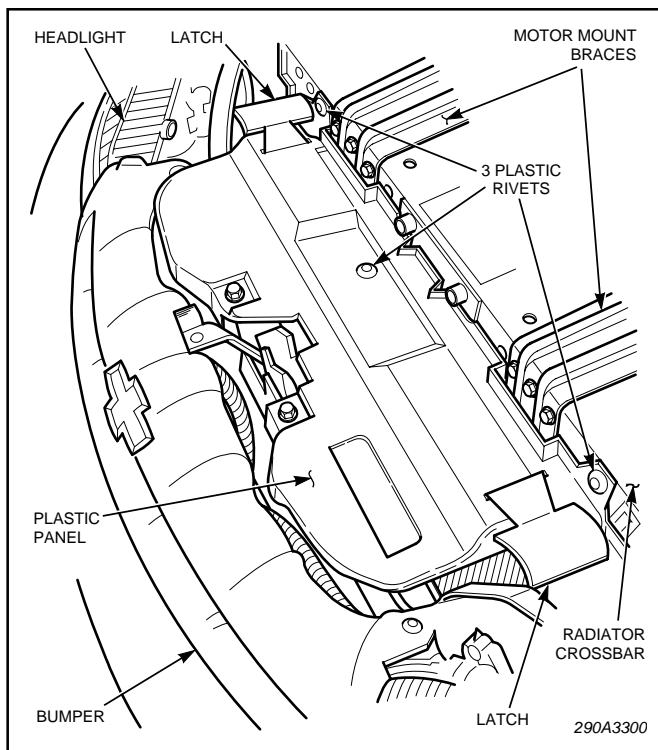

Figure 2.
2. Raise the vehicle hood. See figure 2. Locate the plastic panel between the radiator crossbar and the grille.
3. Remove and retain the three plastic rivets and two hex head screws. Unlatch the rubber fasteners at each end of the panel (see figure 2). Remove the plastic panel.
4. See figure 2. Locate the passenger side motor mount bracket.